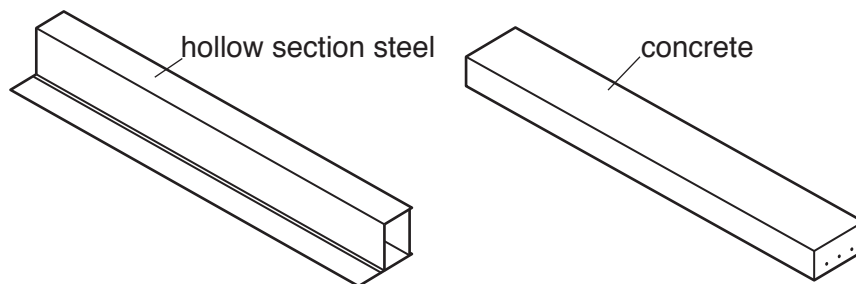

Fig. 1
- 2 Fig. 1 shows two different types of structural beam used to span an opening in a building.